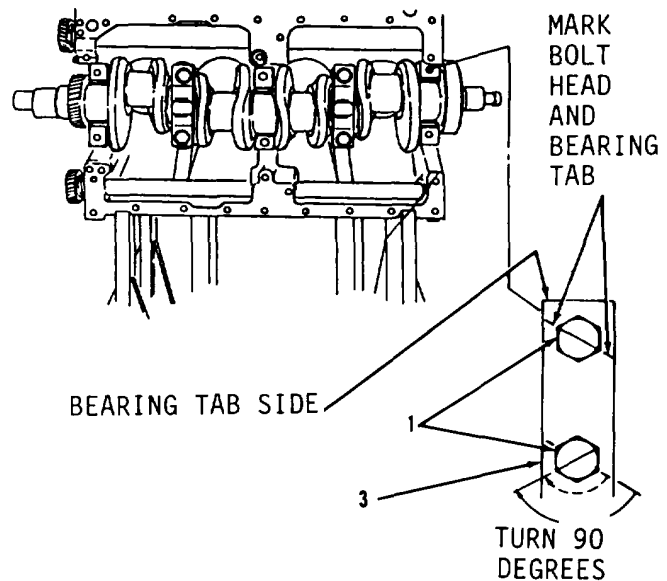

Figure 13-23.
9. Position three items 4 and 3 as an assembly and plastigage under crankshaft journal, aligning holes.
10. Coat six bolts (1) with clean engine oil and install finger tight.
11. Tighten six bolts (1) at bearing tab side of bearing cap (3, Figure 13-23) to 30 ft-lb torque.
12. Mark six bolts (1) and three bearing caps (3) with chalk.
13. Tighten three of six bolts (1) opposite tab side of three bearing caps (3) a further 90 degrees, using chalk mark as an aid in estimating how far to tighten three of six bolts (1).